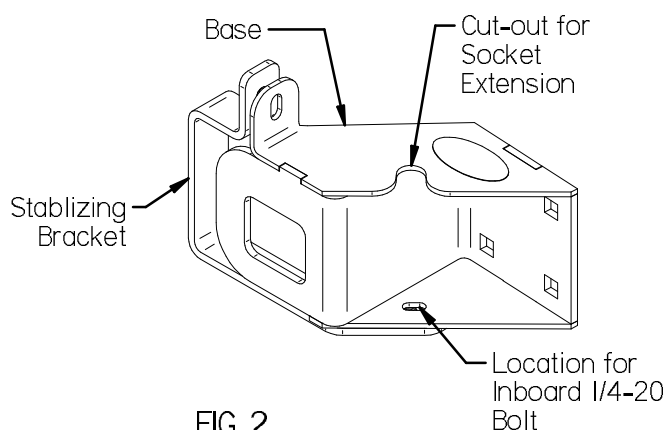

FIG. 2
4. Position Stabilizing Bracket and insert (2x) 1/4-20 Hex Head Bolts fastening them loosely with a 7/16 Socket Wrench. Take advantage of the cut-out on the base to align the inboard 1/4-20 Bolt (see FIG. 2).